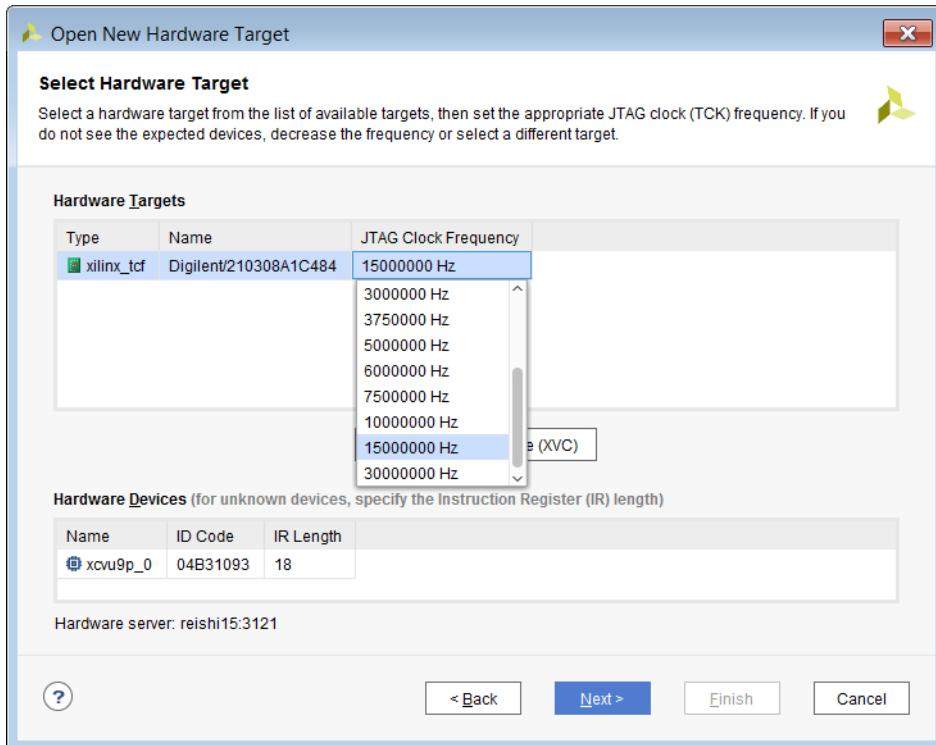

Figure 4-5: Selecting a Hardware Target
2. Select the appropriate hardware target from the list of targets that are managed by the hardware server. Note that when you select a target, you see the various hardware devices that are available on that hardware target (see Figure 4-5).
- If you are not able to correctly identify the hardware devices on your target, it might mean that your hardware is not capable of running at the default target frequency. You can adjust the frequency of the TCK pin of the hardware target or cable (see Figure 4-5). Note that each type of hardware target may have different properties. Refer to the documentation of each hardware target for more information about these properties.
- While the Vivado hardware server will attempt to automatically determine the instruction register (IR) length of all devices in the JTAG chain, in some rare circumstances it might not be able to correctly do so. You should check the IR length for each unknown device to make sure it is correct. If you need to specify the IR length, you can do so directly in the **Hardware Devices** table of the **Open New Hardware Target** wizard (see Figure 4-5).